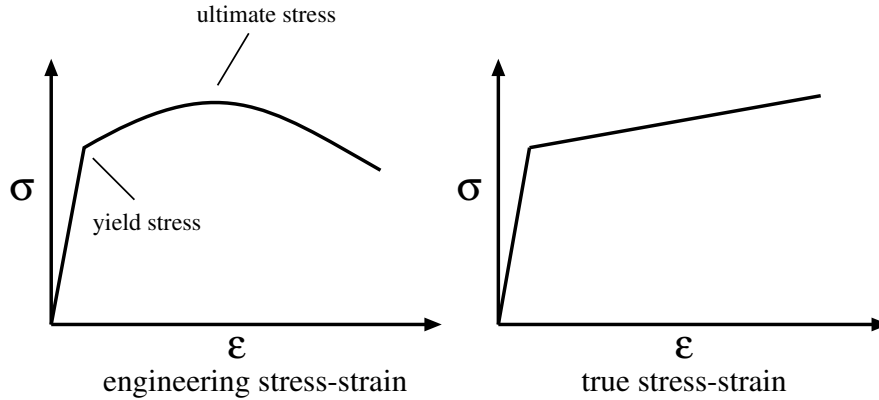

Figure 1: Engineering (left) and true (right) stress strain responses (not to scale).
1) engineering stress versus engineering strain, and 2) true stress versus true strain. Example plots, which aren't to scale, are shown in Figure 1.